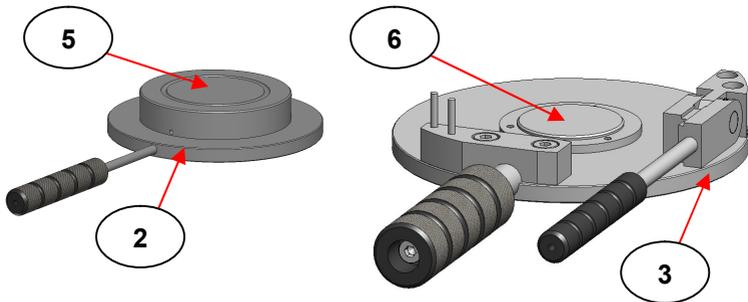

Fig 2. Top and Lower Platen Pressing Assemblies
The top (2) and lower (3) platen pressing assemblies of the Atlas™ Film Maker Accessory each have a highly polished circular pressing surface (5 - top and 6 - lower). (See Fig 2.) These polished surfaces (5) and (6) are protected from damage during transit by covering with a plastic film. When first supplied, carefully peel off the protective film and clean the polished surfaces (5) and (6) with a soft tissue and suitable solvent (foam cleaner/degreaser or acetone) before use.